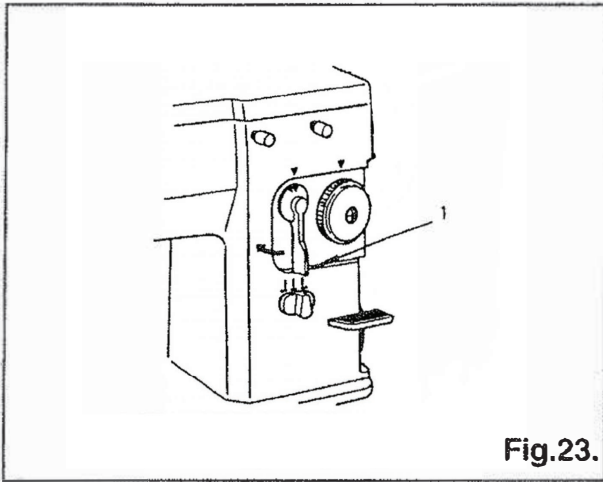

Fig. 23.
The width of zigzag stitch is controlled with the spring biased stitch width regulating lever (1), Fig. 23.